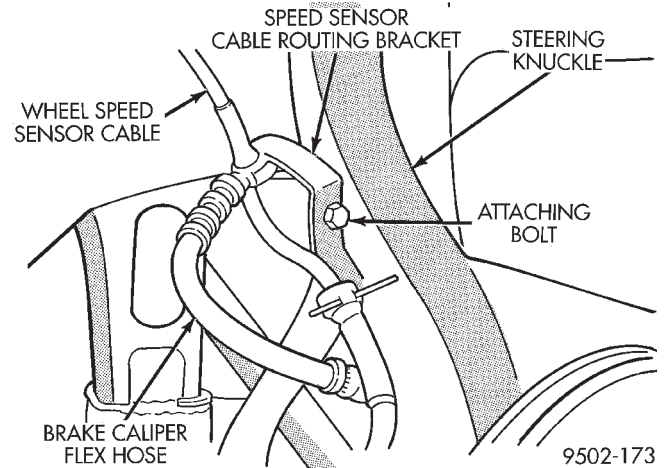

Fig. 66 Speed Sensor Cable Routing Bracket
(11) If equipped with antilock brakes remove the speed sensor cable routing bracket (Fig. 66) from the steering knuckle.
- (1) Slide drive shaft back into front hub/bearing assembly.
- (2) Install the steering knuckle on the lower control arm ball joint.
- (3) Install the steering knuckle to lower ball joint castle nut.
- (4) Install upper ball joint stud in steering knuckle.
- (5) Install the steering knuckle to upper ball joint stud castle nut.
- (6) Using a crow foot and torque wrench, tighten the upper and lower ball joint castle nuts to the following torque specifications.
- (7) If equipped with antilock brakes install the speed sensor cable routing bracket on the steering knuckle (Fig. 66) and securely tighten attaching bolt.